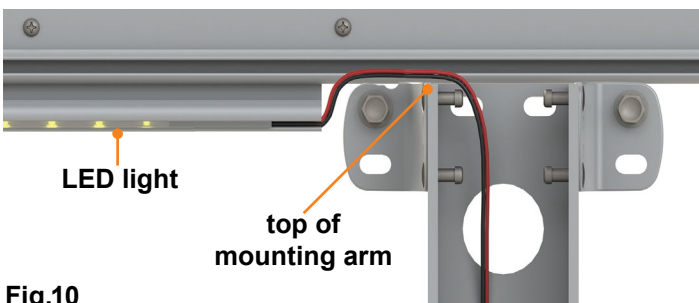

Fig.10
1. The light wire is under the 4-inch wire cover at the top of the arm (Fig.10). Remove the wire cover.
4. The light wire must be routed over the top of the mounting arm (Fig.10).